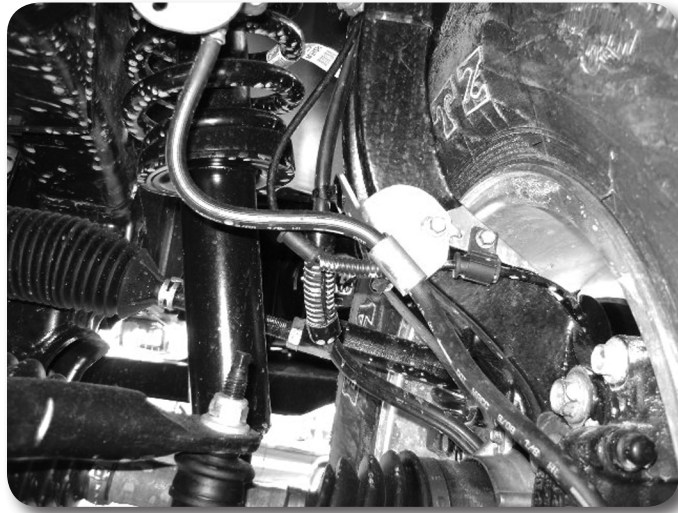

Figure 17
42. Attach the ABS line to the connector at the inner fender and the vacuum line to the hub. Route the lines similar to the factory setup down to the side of the knuckle. Attach the ABS wire with the factory 6mm bolt to the side of the knuckle. Attach the brakeline with a new 6mm x 18mm bolt with 1/4" washer to the side of the knuckle, the brakeline locating tab will go into the unthreaded hole. Figure 17.